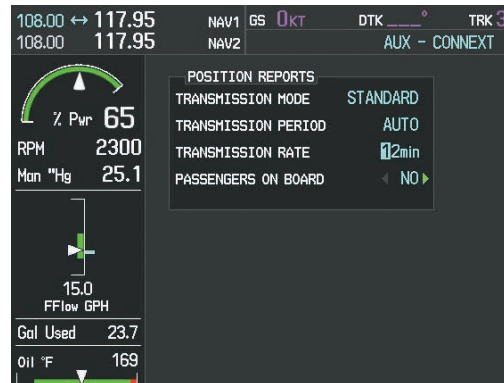

Figure 8-125 Set Transmission Rate
- 4) Turn the small **FMS** Knob to highlight the first digit, as shown in Figure 8-125.